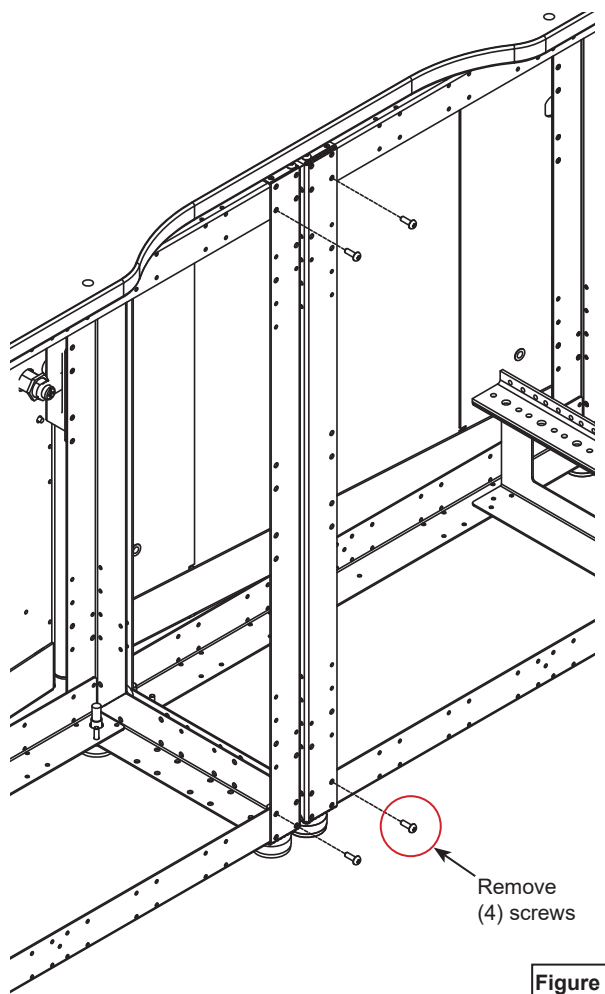

Figure 1.2
Note: If installing the stand onto a 2-bay credenza, it will be necessary to remove the (4) screws shown from the credenza frames before installing the upright bars. **Figure 1.2.**